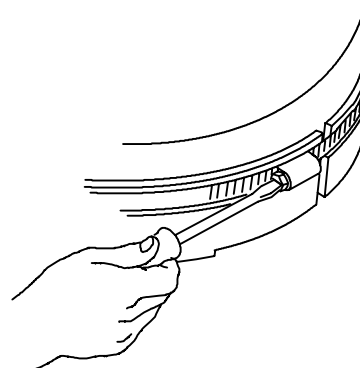

FIG. 18
- If skirt band is too tight, slightly loosen clamp at rear of scrub head (Figure 18).